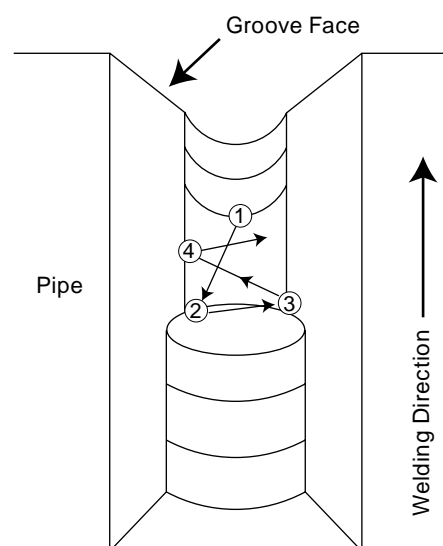

Fig.5 - The Backstep Technique in Vertical-Up Position Welding of Pipes
- (2) Use the backstep technique at arc starting to prevent the occurrence of porosity at the starting area of the weld bead as illustrated in Fig. 5. This figure shows the backstep technique in the vertical-up position when welding a horizontally fixed pipe. This is a common practice for all low hydrogen electrodes.